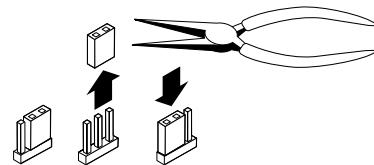

Figure 8 — Changing jumper settings
4. To change the jumper configuration, use pliers to pull the jumper shunt off the pins, then place the jumper on the appropriate pins (figure 8).